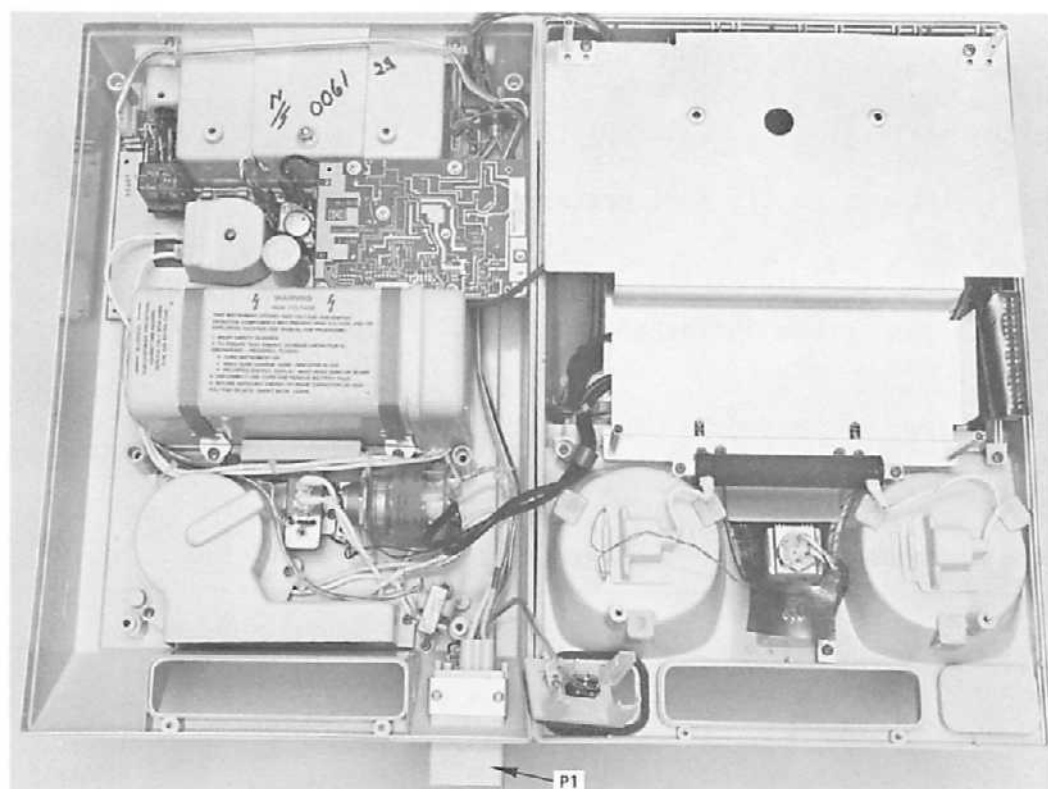

Figure 4-2. (78670A)
7. Lift the top section off, turn it upside down, and place it on the bench to the right of the lower section. The upper and lower sections are connected by wiring. See Figure 4-2.